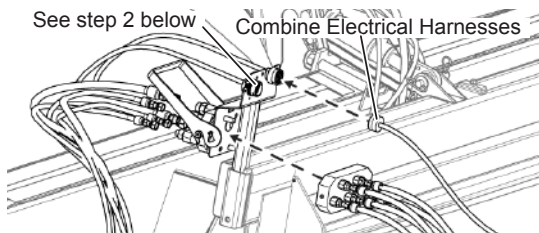

Fig. 49 - Connect Multicoupler & Electrical Harness
2. If the hydraulic tilt option was purchased, connect the hydraulic tilt switch box harness to the connector on the multicoupler (see Fig. 49 above). Route the switch box cable into the combine cab, taking care to keep the cable away from hot or moving parts. Secure the switch box in the cab with the provided suction cup.
If the manual tilt cylinder option was purchased, install the jumper on the connector on the multicoupler (see Fig. 49 above).